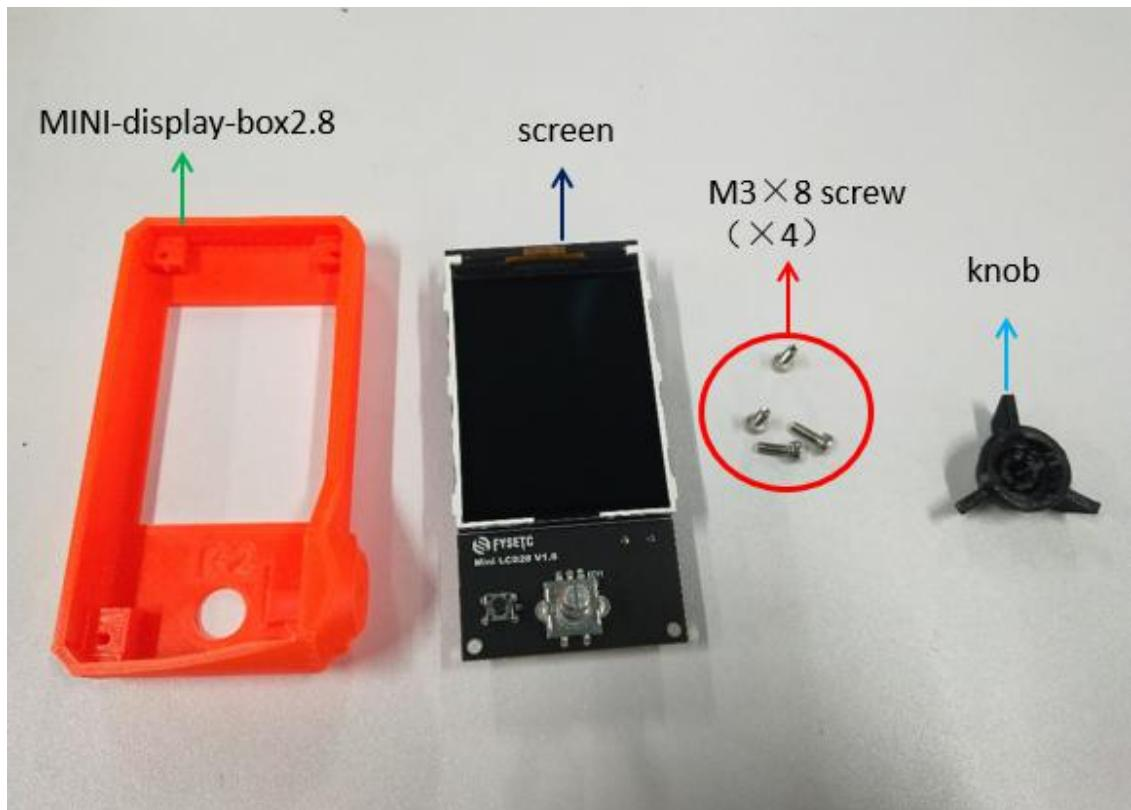

Figure 1.13.1
**Step 1-13-1:** As shown in Figure 1.13.1, prepare the materials and check whether the quantity of materials is correct, and prepare for the next installation.